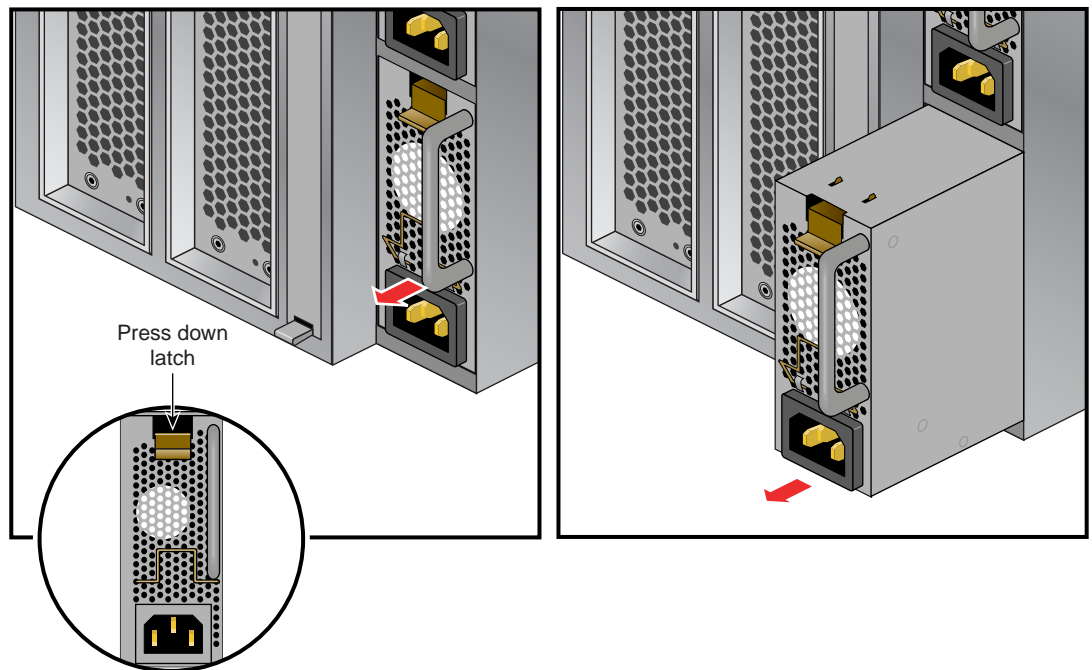

Figure 6-3 Removing an IRU Power Supply
2. Press down on the retention latch at the top of the power supply, see Figure 6-3.